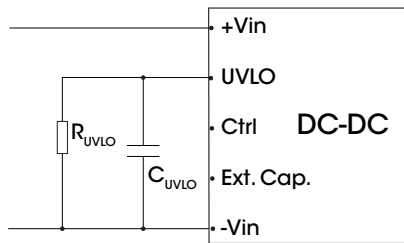

Figure 12. Recommended circuit for undervoltage-lockout adjustment
3. The UVLO pin can adjust the point of input under-voltage protection by the external resistance R_{UVLO} , for the value of R_{UVLO} , please refer to Fig. 12. If the pin is open circuit, the point of input under-voltage protection is 11 V.
3. The resistance R_{UVLO} sets the undervoltage protection point, for the value of R_{UVLO} , please refer to Fig. 12.